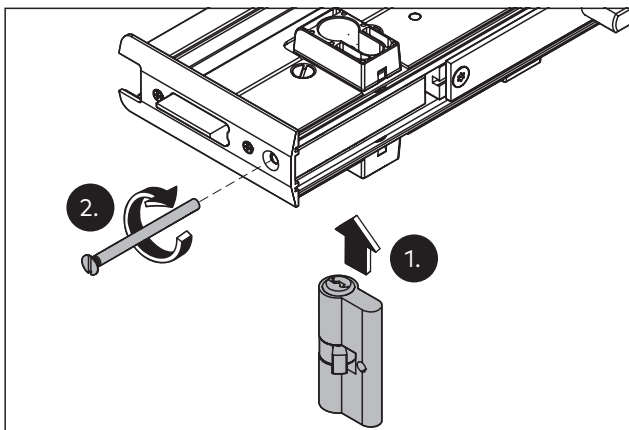

Fig. 14 Inserting the locking cylinder and screwing into place
5. Insert the locking cylinder. In doing so, ensure that the cylinder driver fits in the opening (Fig. 14/1).
6. Screw the locking cylinder with the screw from the front end (Fig. 14/2).